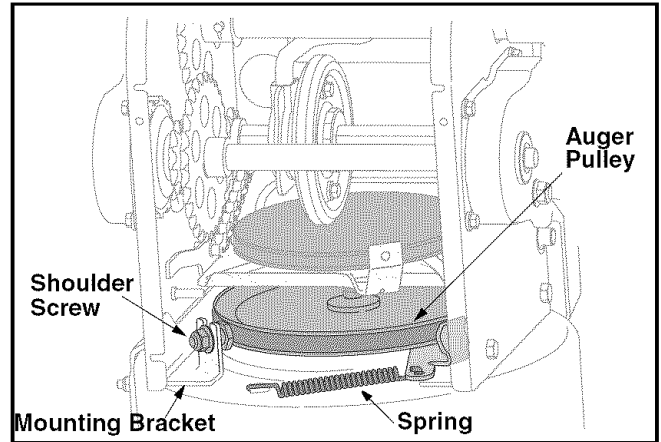

Figure 22
- Turn the shoulder screw a half a turn and slide it out of the mounting bracket. See Figure 22.
- Unhook spring to release tension on the auger belt. Remove old belt and replace with new belt installing it on the pulley. See Figure 22.
- Wrap auger belt around the auger pulley. See Figure 22.